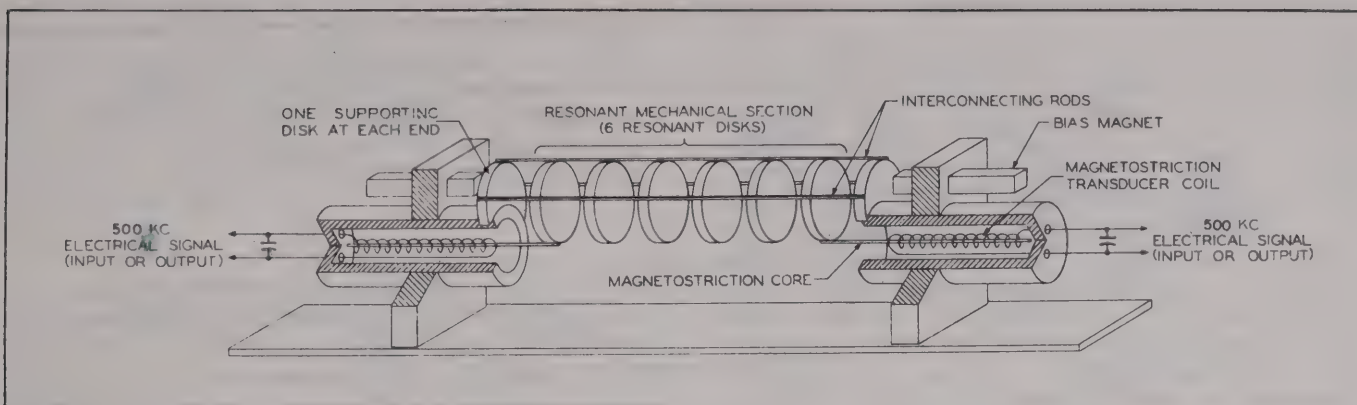

Figure 4-11. Mechanical Filters, Functional Diagram
**4-19.** Figure 4-11 illustrates the mechanical layout of the filters. Biasing magnets at each end polarize the resonant disks to prevent frequency doubling in much the same manner that biasing magnets in a headphone prevent the diaphragm from bending in the same direction for both halves of an a-c signal. Each of the nickel alloy disks has a resonant Q exceeding 2000. The disks are overcoupled to produce a response curve with a flat top and straight, almost vertical, sides. Thus, the filters pass a band of frequencies very little wider than the 6.0-kc and 1.4-kc flat top of the selectivity curves.